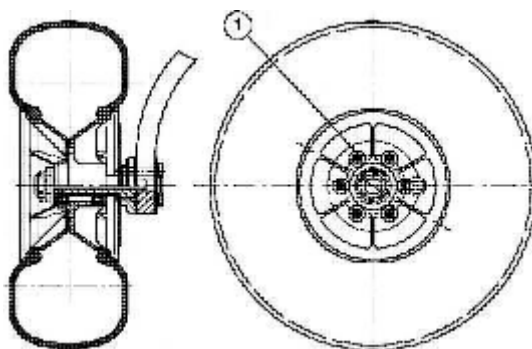

Fig. 8-8
- Unscrew bolts (1) (see Fig. 8-8).